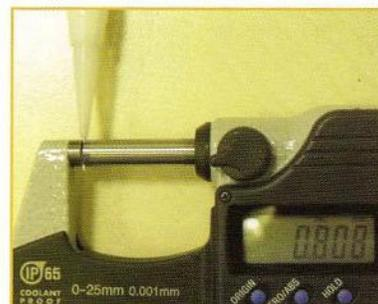

Figure 2. External diameter should be 0.8mm or 1mm.
- External diameter. We work with 2 diameters, 0.8mm (1- and 2-hair FUs) and 1mm (2-, 3-, and 4-hair FUs). Larger sizes are usually unnecessary (Figure 2).